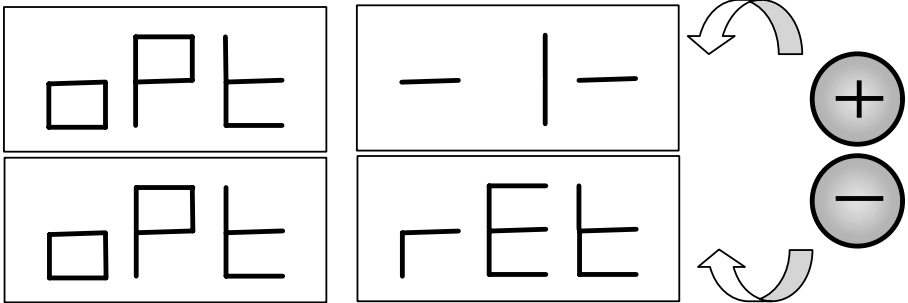

Fig. F5.1 Access to the Optimisation programme
1. Press [F+P4]  + . The display will show the options shown in figure F5.1. Press [P4]  or [P5]  and choose the option Opt-1- to continue, or the option Opt ret to return to the operating programme. Press [F+P4]  +  to confirm the chosen option;